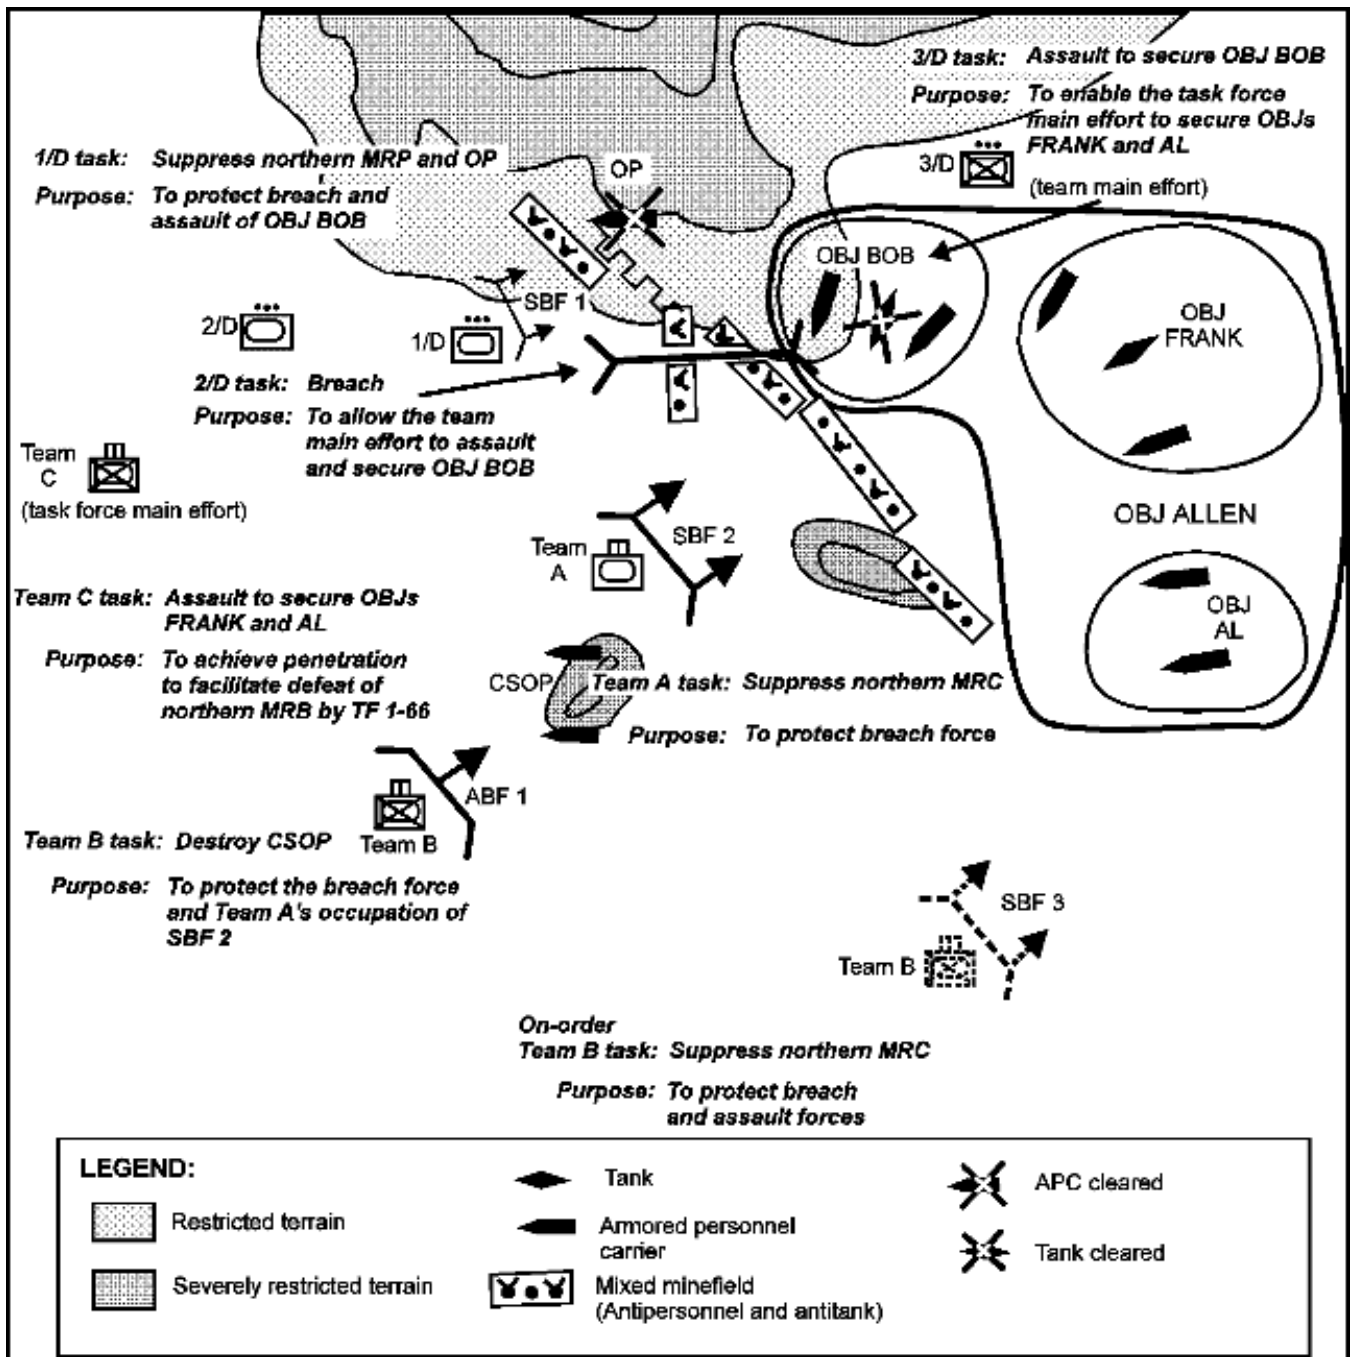

Figure 2-12. Identification of company team purposes in a breaching operation.
**COA Step 2 - Generate options.** The commander must first identify the decisive points or times at which the unit will mass the effects of overwhelming firepower to achieve a specific result (with respect to terrain, enemy, and/or time) that will accomplish the unit's purpose. This will be the company team's main effort. The commander must next identify any supporting efforts; these are tasks other than the main effort that must be accomplished to allow the main effort to succeed. The commander then determines the purposes of the main effort and the supporting efforts. (**NOTE:** The main effort's purpose is directly related to the mission of the unit, while the supporting efforts' purposes relate directly to the main effort.) The commander can then identify the essential tasks that will enable the main and supporting efforts to achieve their purposes. Figure 2-12 depicts company team purposes for a breaching operation.